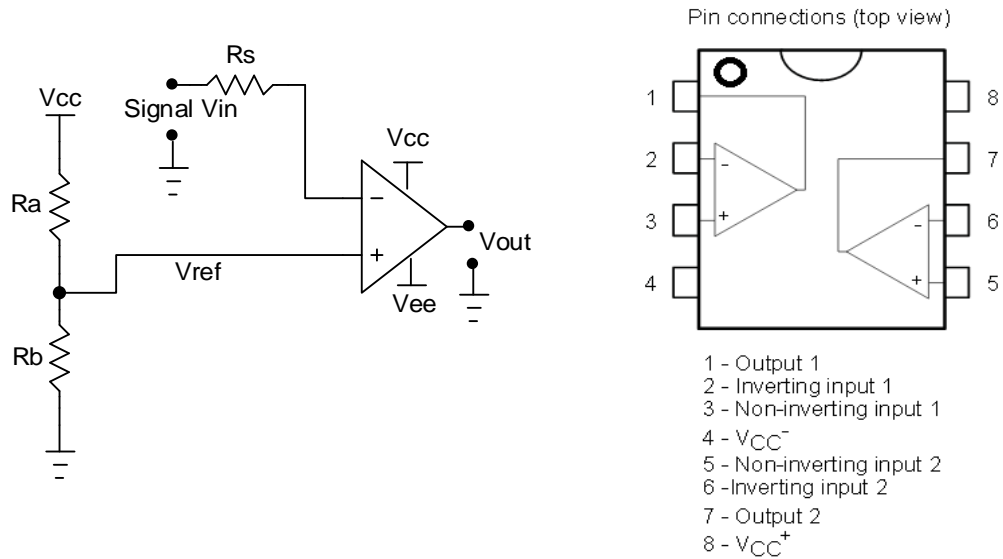

Figure 1. Comparator circuit-1 (V_{cc}^- is V_{ee})
The classical circuit example for opamp in open loop is the voltage comparator. The circuit compares the amplitude of an AC input signal with a DC reference and provides an output indicating if the input signal is below or above the reference voltage level. You will experiment with two circuit configurations, shown in figures 1 and 2 below.
- Construct the comparator circuit shown figure 1. Choose resistors R_a and R_b such that the V_{ref} (DC voltage) is between 1.5V and 5V . The smallest resistor in this pair should be at least 1K .